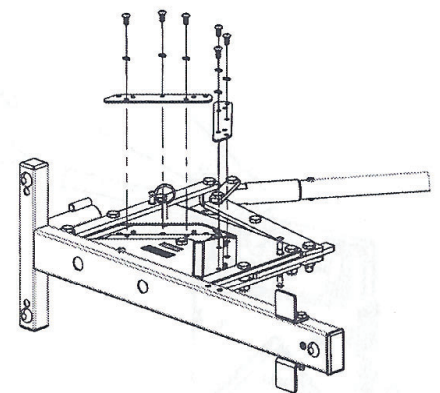

Figure 13
- 4) Rest the machine in the horizontal position. See Figure 13.
- 5) Using the provided Allen Wrench, remove the 4 screws and remove the screws, washers and cutter blocks. See Figure 13.